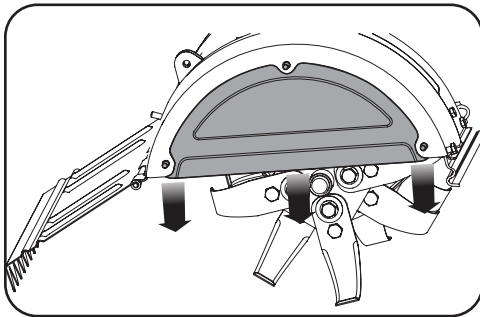

Figure 4-6
2. Slide the end cover back and out from the bottom of the tine shield. See Figure 4-6.